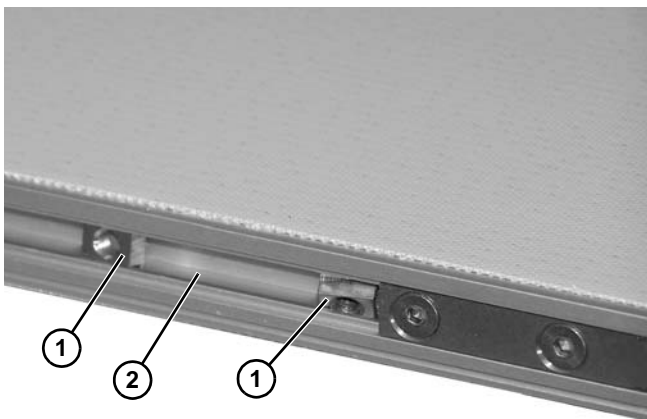

**Figure 6**
1. Locate pivoting brackets. Exploded view shown in Figure 6.
2. Remove screws (**Figure 6, item 1**) and T-bars (**Figure 6, item 2**) from flat mounting brackets (**Figure 6, item 3**).
3. Install angled mounting brackets (**Figure 6, item 4**) onto flat mounting brackets (**Figure 6, item 3**) on top end with screws (**Figure 6, item 5**). On bottom, install washer (**Figure 6, item 6**) with screw (**Figure 6, item 7**).